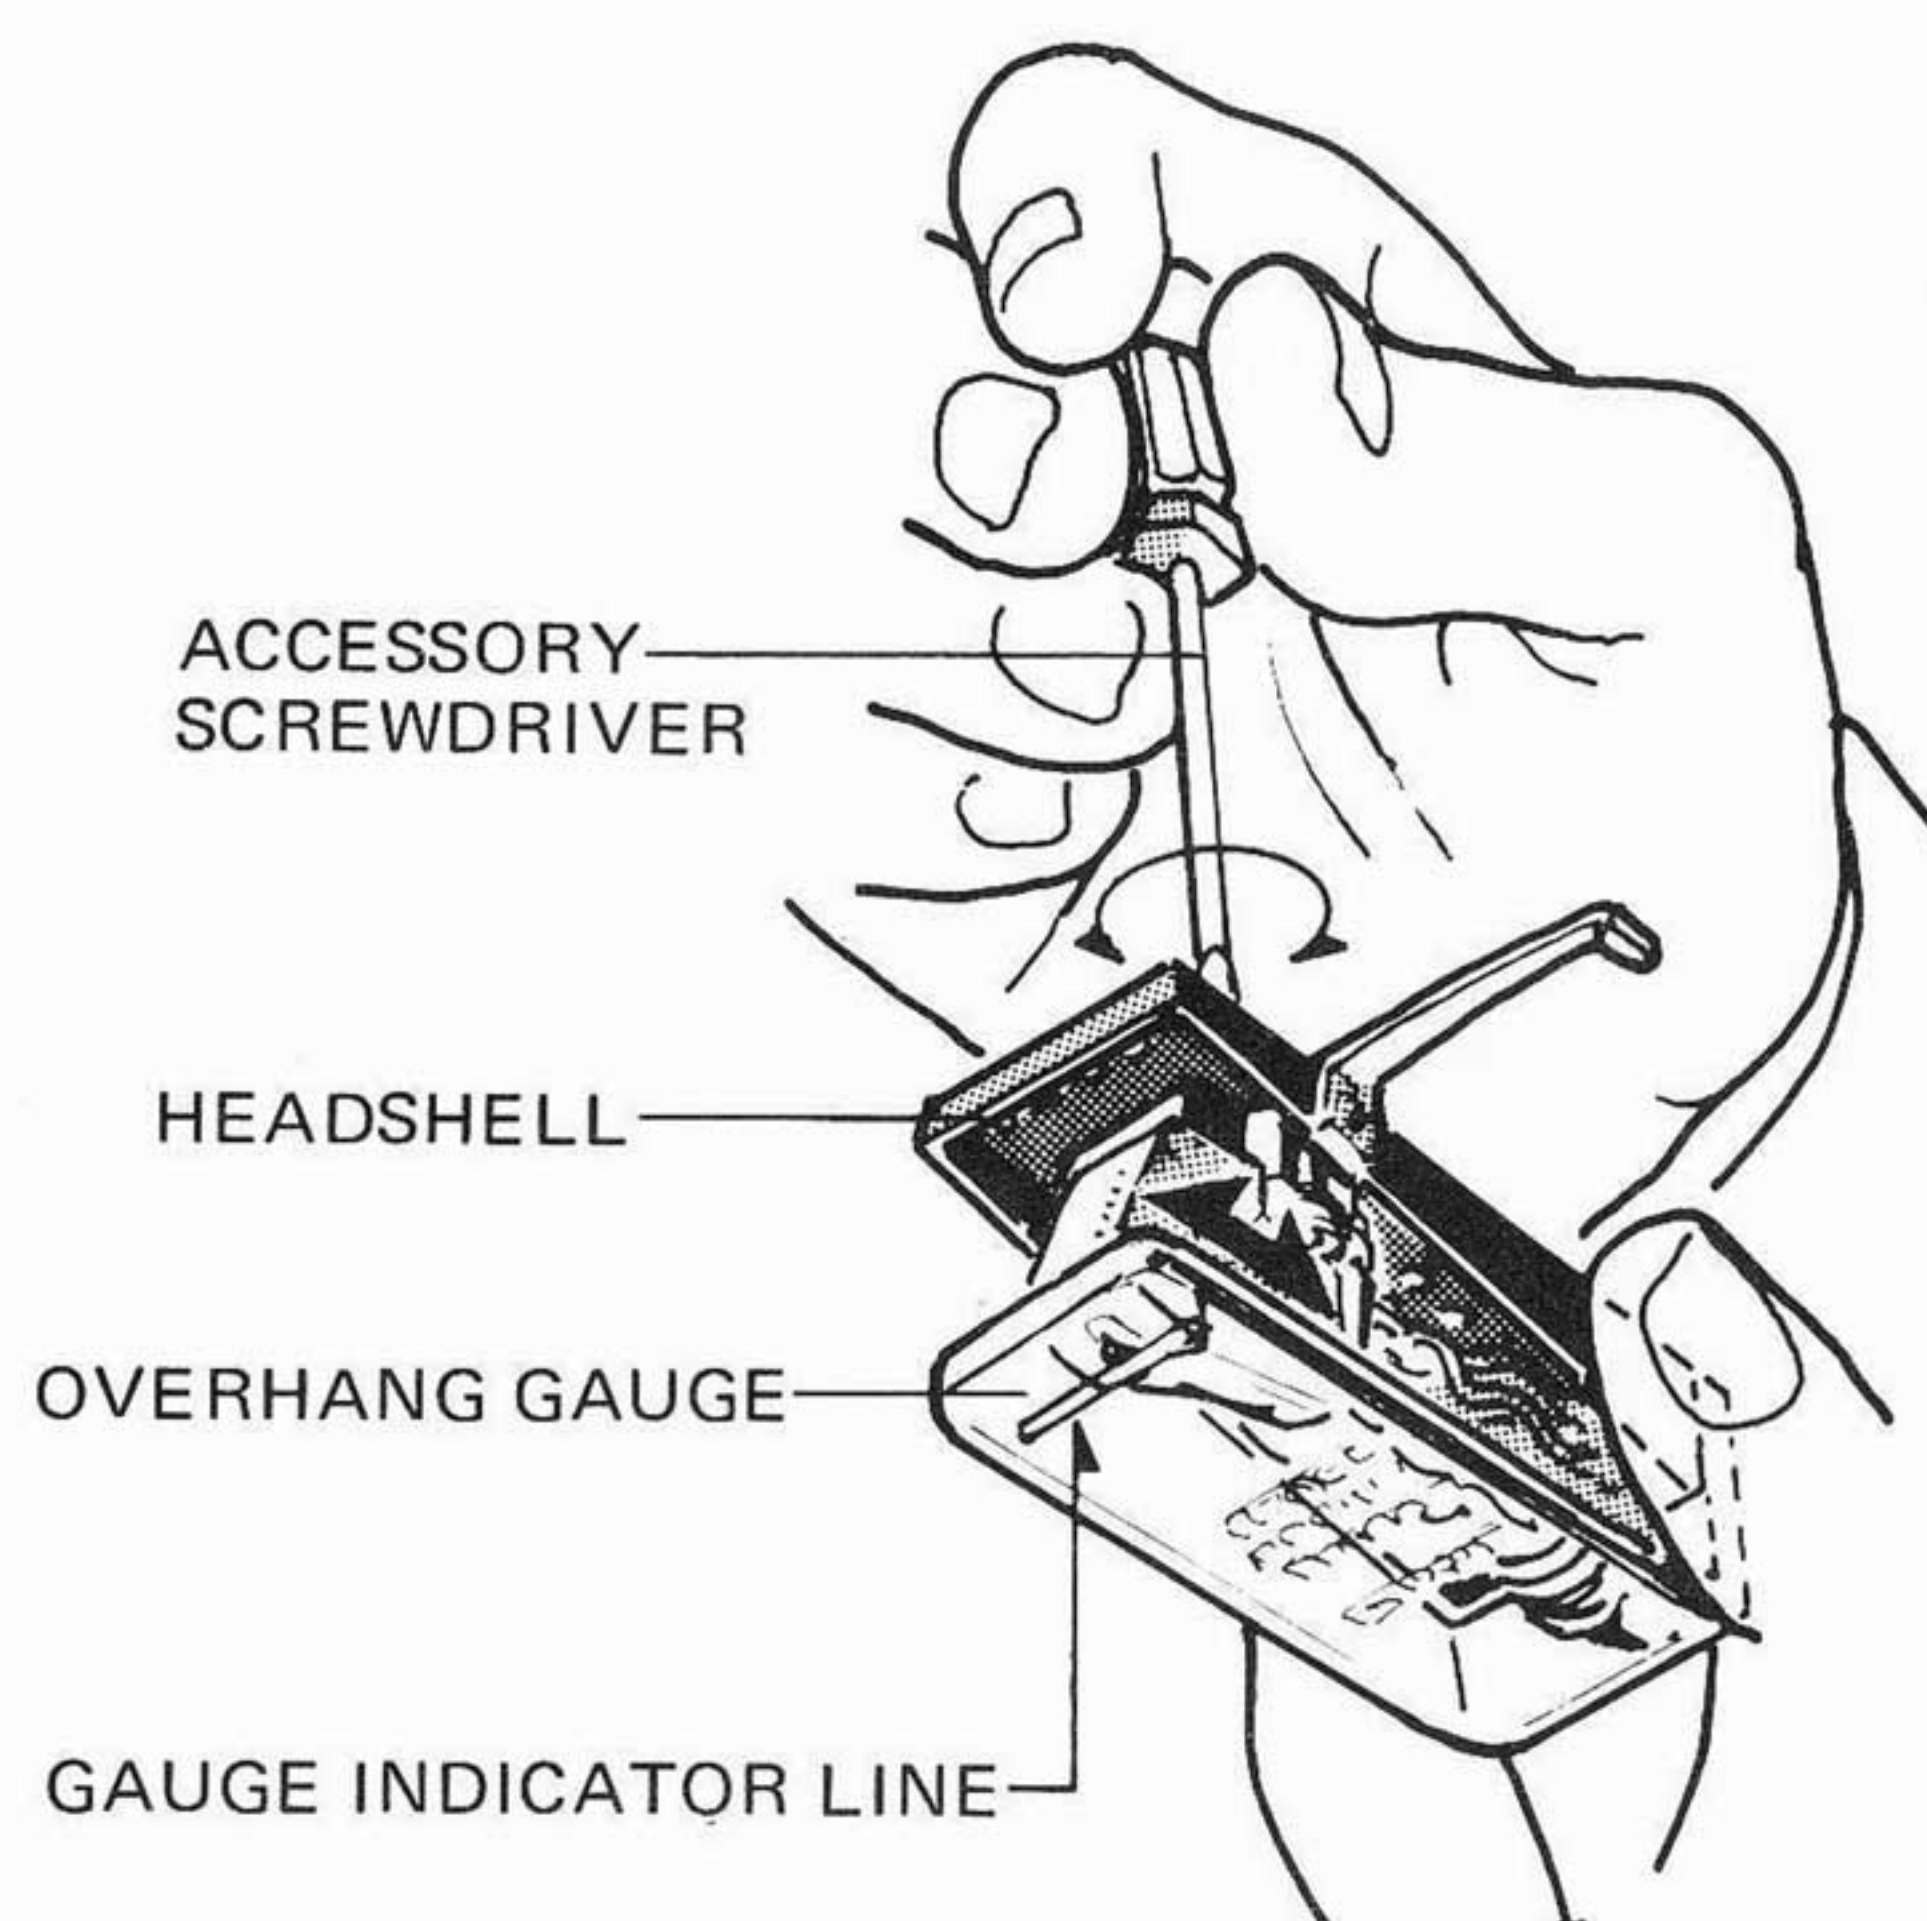

Fig. 2
4. Adjust the overhang using the accessory overhang gauge. To do this, hold the headshell against the overhang gauge as shown in Fig. 2, aligning the indicator line on the overhang gauge with the stylus position, tighten it firmly in place with the mounting screws, being careful that it does not tilt to one side.